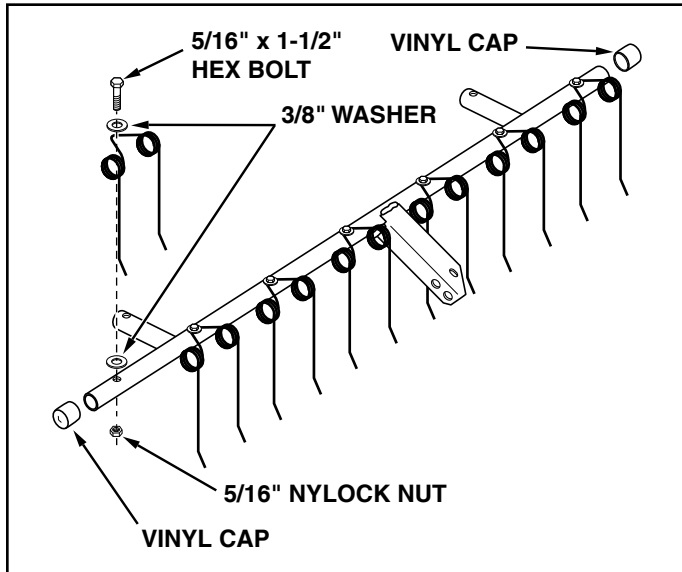

FIGURE 1
- Assemble seven spring tines to the top of the frame tube. Use a 5/16" x 1-1/2" hex bolt, two 3/8" flat washers and a 5/16" nylock nut for each spring tine. Place one 3/8" flat washer on top of the frame tube and the second 3/8" flat washer on top of the spring tine. See figure 1.
- Assemble a vinyl cap onto each end of the frame tube. See figure 1.